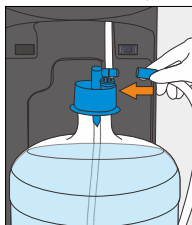

Figure 6
- (7) Remove the red protective cap from the blue tube of SmartFlo™ Water Cartridge and install onto the bottle adaptor assembly (Figure 6)